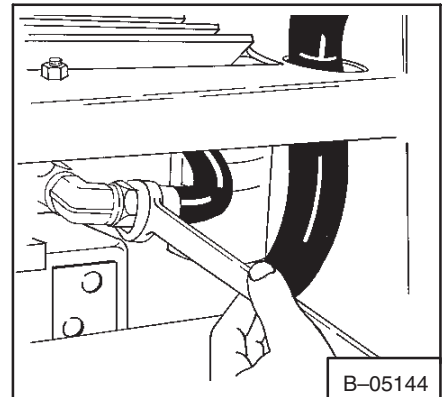

Fig. 1-35 Hose Fitting
- (a) Open the rear door and remove the hose at the oil cooler fitting (Fig. 1-35).